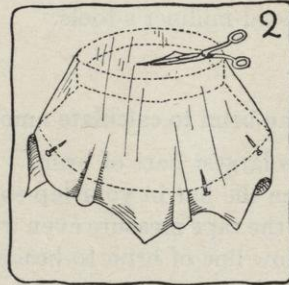

FIG. 2.
- (1) Cut out an oval 1 inch inside of top headsize (see Figure 2).